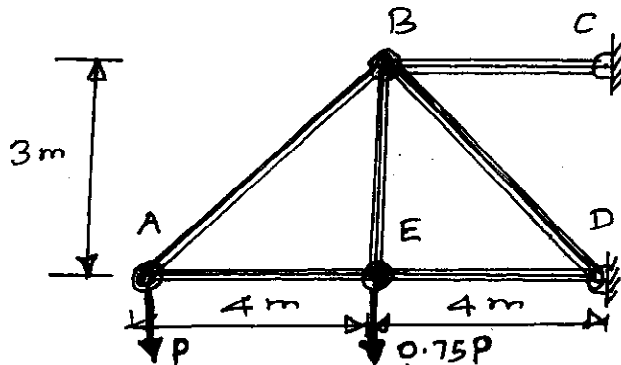

Fig. Q1.
- 1 Determine the forces in each bar of the truss shown in Fig.Q1. [10]